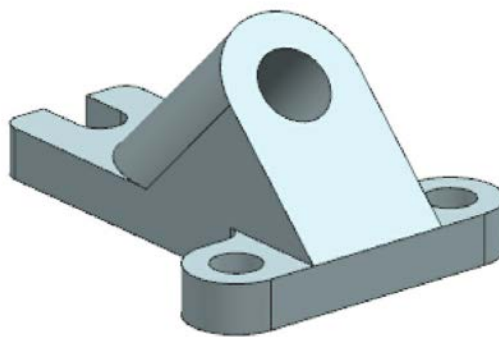
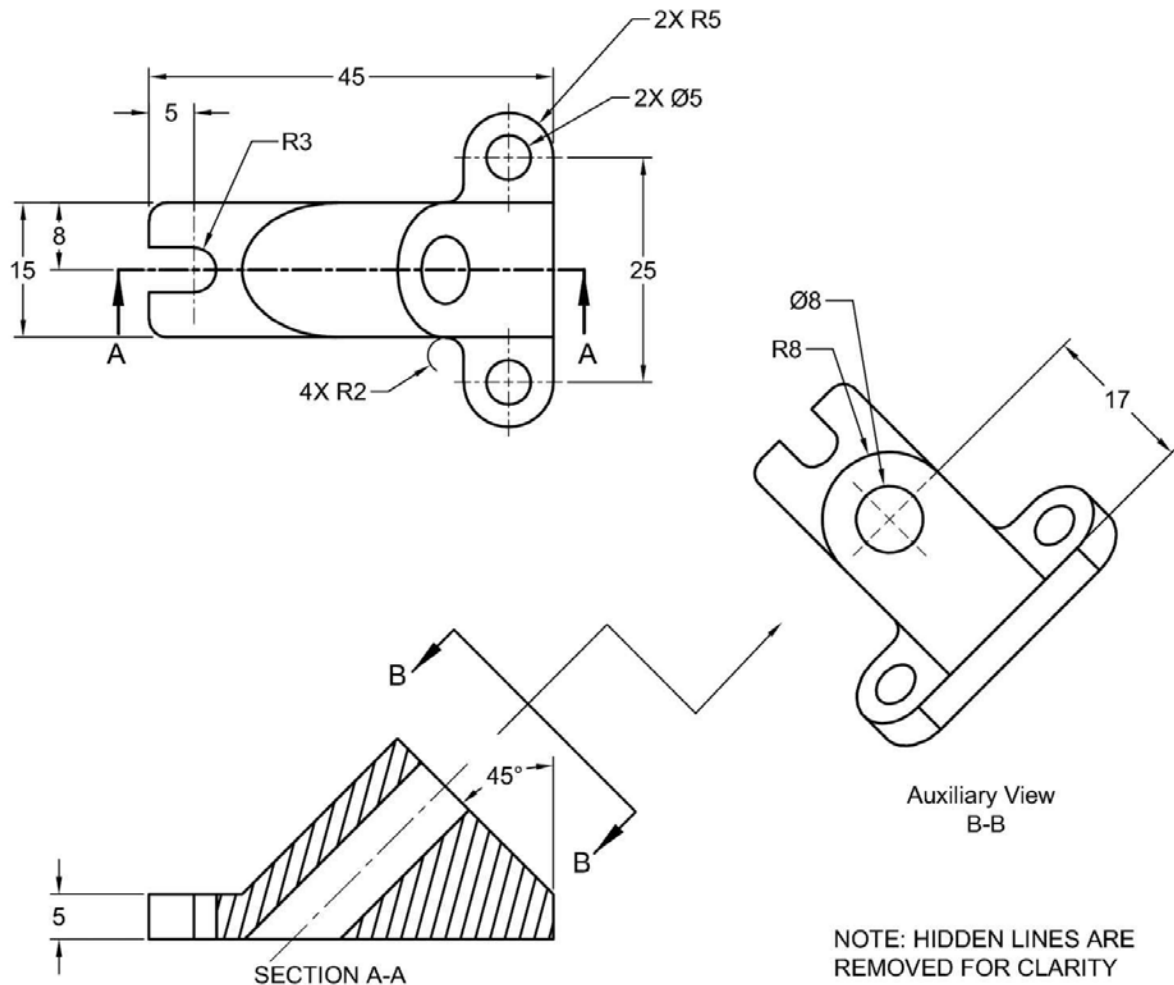

Figure 5-67 Model for Tutorial 3
Figure 5-68 Dimensions of the model for Tutorial 3
In this tutorial, you will create the model shown in Figure 5-67. The dimensions of the model are given in Figure 5-68. **(Expected time: 30 min)**
1. Select the inclined face of the second feature as the sketching plane and then draw the sketch for the hole. Add the required dimensions and constraints to the circle, refer to Figure 5-68.